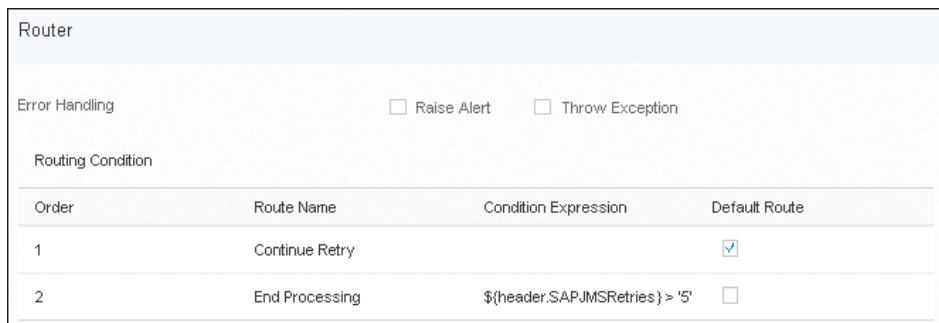

Figure 5.102 Configuration of Router Step in Local Integration Subprocess
3. The JMS sender adapter sets the header `SAPJMSRetries` at runtime. This header allows you to configure a specific retry behavior: it contains the number of retries that already are executed. Based on the value of this header, we can configure whether the message processing continues or ends. If we configure it to end, we can also configure that the message is processed in an alternative way. This is done in the **Router** step. As a simple example, we want to configure that after five retries, the message is sent via email to an administrator, and no further retries are executed from the JMS queue. We configure the two routes leaving the **Router** step per Figure 5.102: